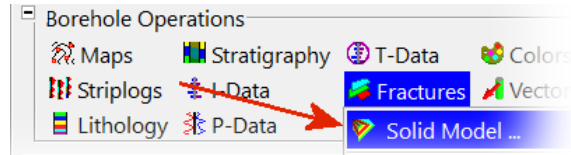

Figure 17
- Select the *Borehole Operations / Fractures / Solid Model* program (Figure 17).